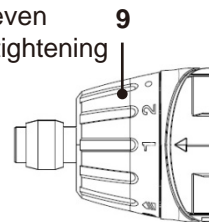

Fig. 10
The numbers circling the collar are used to indicate the level of torque. The higher number on the collar, the higher torque and the larger fastener can be driven. To select any of the numbers, rotate the collar (9) until the desired number aligns with the arrow head indicator on the housing, “11” position means the maximum torque (Fig.10).